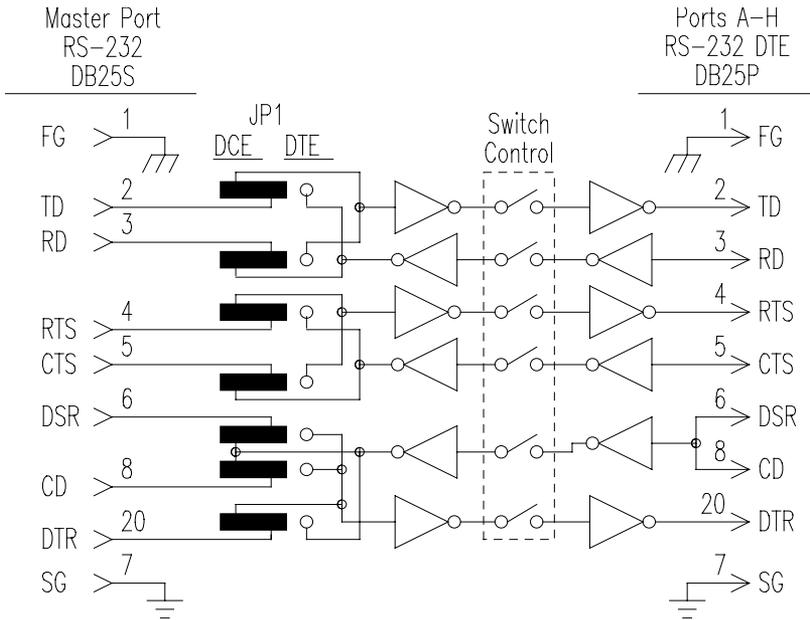

Figure 5. Simplified RS-232 Schematic
* Pins 6 & 8 are tied together inside the 232D4SS8 and share the same output. Refer to Figure 5.
* Pins 6 & 8 are tied together inside the 232D4SS8 and share the same input. Refer to Figure 5.
*Pins 6 & 8 are tied together inside the 232D4SS8 and share the same input. Refer to Figure 5.
All eight RS-232 slave ports will be wired as DTE ports. Refer to Table 4 for pin out, signal name, and signal direction information. Also, refer to Figure 5 for a simplified schematic showing the relationship between the Master port and any RS-232 port "A-H". Refer to Appendix B for cable charts.